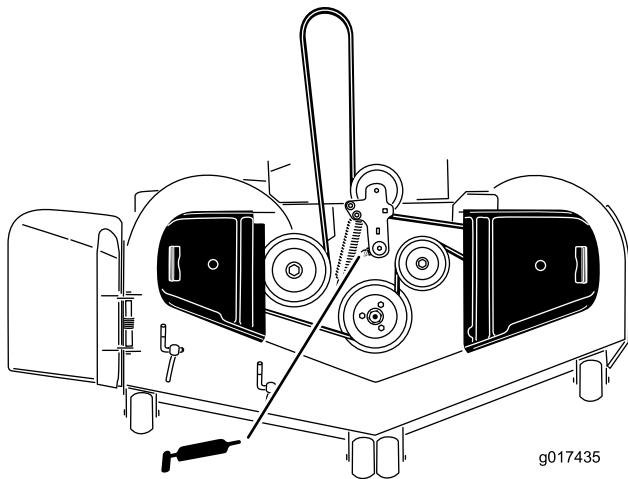

Figure 38
4. Grease the mower deck idler pulley pivot until grease come out the bottom (Figure 38).